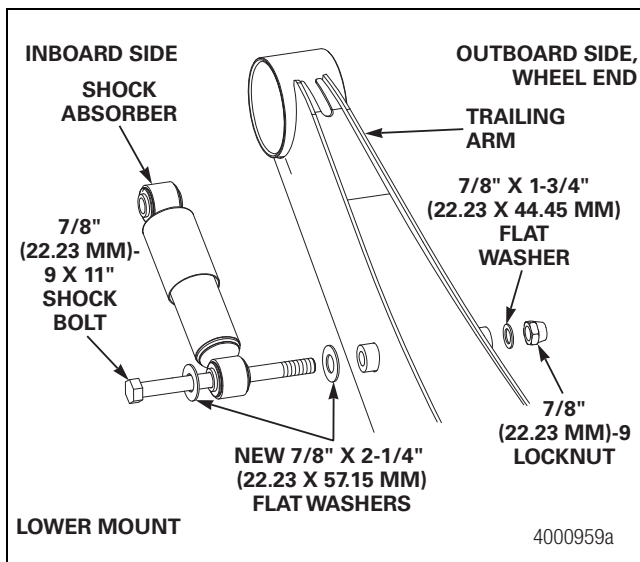

Figure 9.30
- Install the new 7/8-inch x 2-1/4-inch O.D. (22.23 x 57.15 mm) washer between the bolt head and shock absorber. Install a new, larger washer between the shock absorber and the shock tube. Figure 9.30.
- Install the new 7/8-inch x 2-1/4-inch O.D. (2.23 x 57.15 mm) washer onto the lower shock absorber bolt. Install the shock absorber, then the larger washer between the shock absorber and shock tube. Install the washer and locknut. Hand-tighten the nut. Figure 9.30.